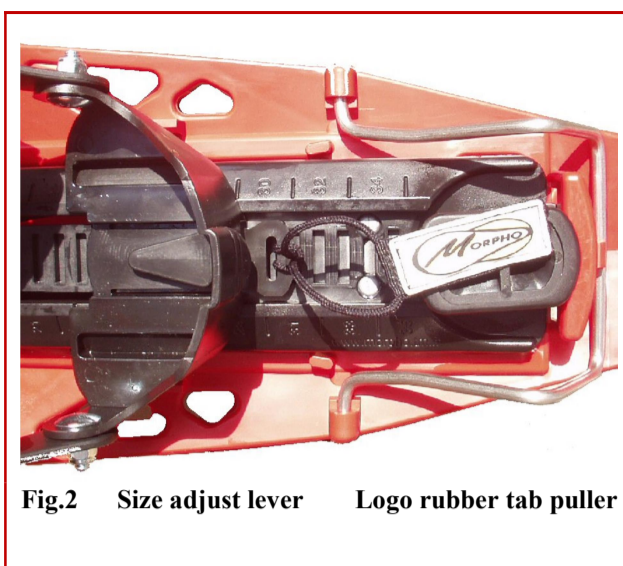
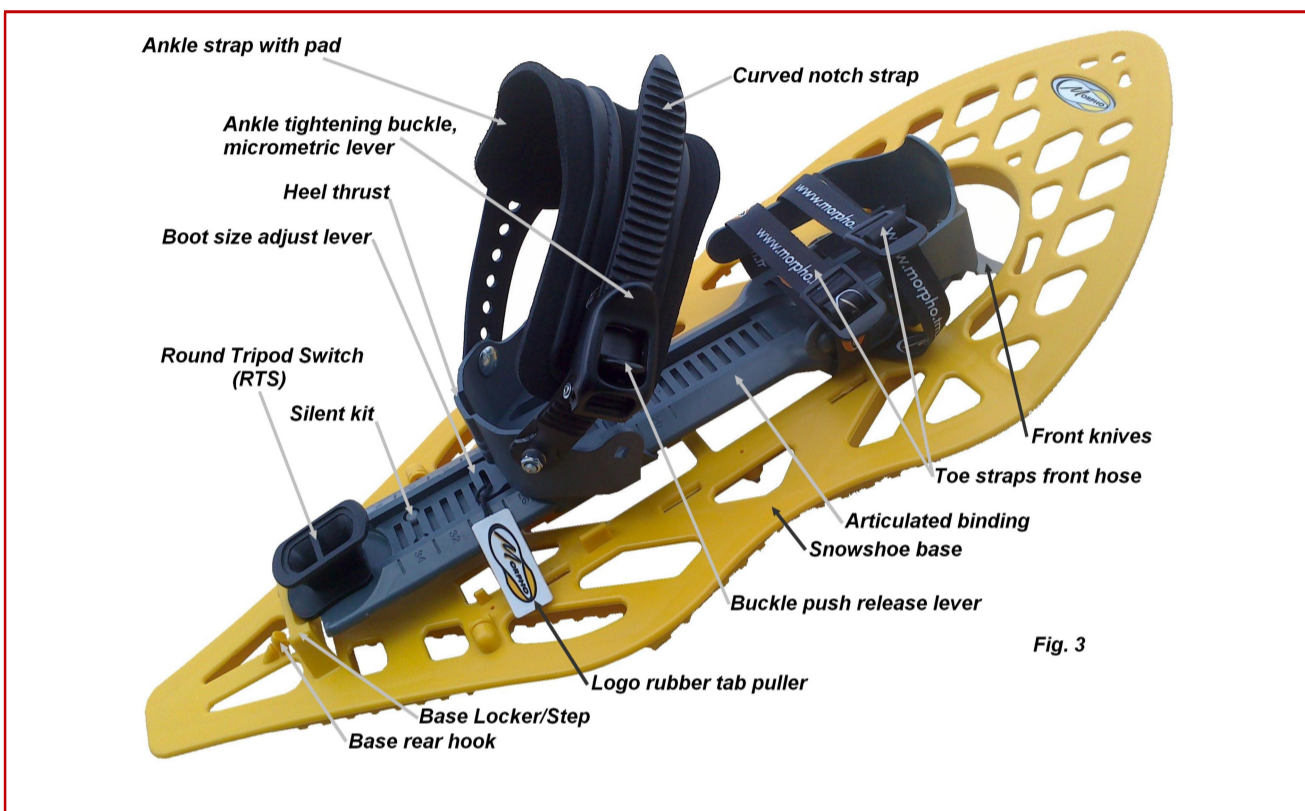

Fig.2 Size adjust lever Logo rubber tab puller
Fig. 3
1. Untighten **ankle strap** (by loosening completely the **notch strap** from the **buckle** of the strap) as well as the 2 **toe straps** so as to insert your boots and to adjust the **heel thrust** of **articulated binding** plate to your boot size. See Fig.3
3. Adjust the heel thrust to the proper size of your boot using the Morpholock system. See Fig.2:
6. **Snowshoeing:** keep **articulated binding plate free** from snowshoe base when going flat, traverse, uphill or downhill: the **RTS** unlocked from base locker/step in all cases. The articulated binding must **lay flat** on the snowshoe base or **stepping** on the intermediary **composite climbing step** when climbing slopes: for this purpose rotate the **RTS** so as to lay on the **base Locker/Step** (fig.3) from its idle position (fig.2) with your gloves.
7. **After use, untighten ankle strap** first: push on the **release lever** of the ratchet buckle and pull out the ankle strap from the notch strap while keeping pressure on the **buckle push release lever**. Then untighten the 2 toe straps: pull up the ends of the quick buckles and loosen the webbings. See fig 3. Remove your boot. **To store** the snowshoe push the articulated binding on the base and lock it to the base by **rotating the RTS** so as to **insert it into the base locker/step**. See fig.2
.When rotating backward metallic climbing step to its idle position make sure to fully push it down until it is blocked by the snowshoe base **rear hook**. (fig.2)